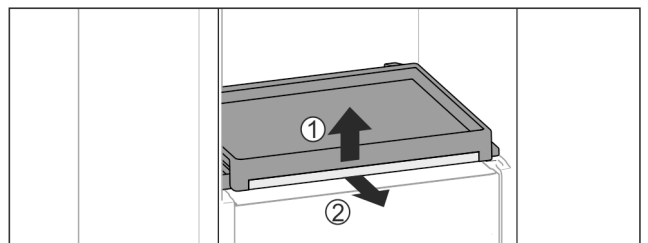

Fig. 114
- ▶ To remove the pull-out board with glass panel: Gently lift the glass panel at the front Fig. 114 (1) and pull out to the front Fig. 114 (2).